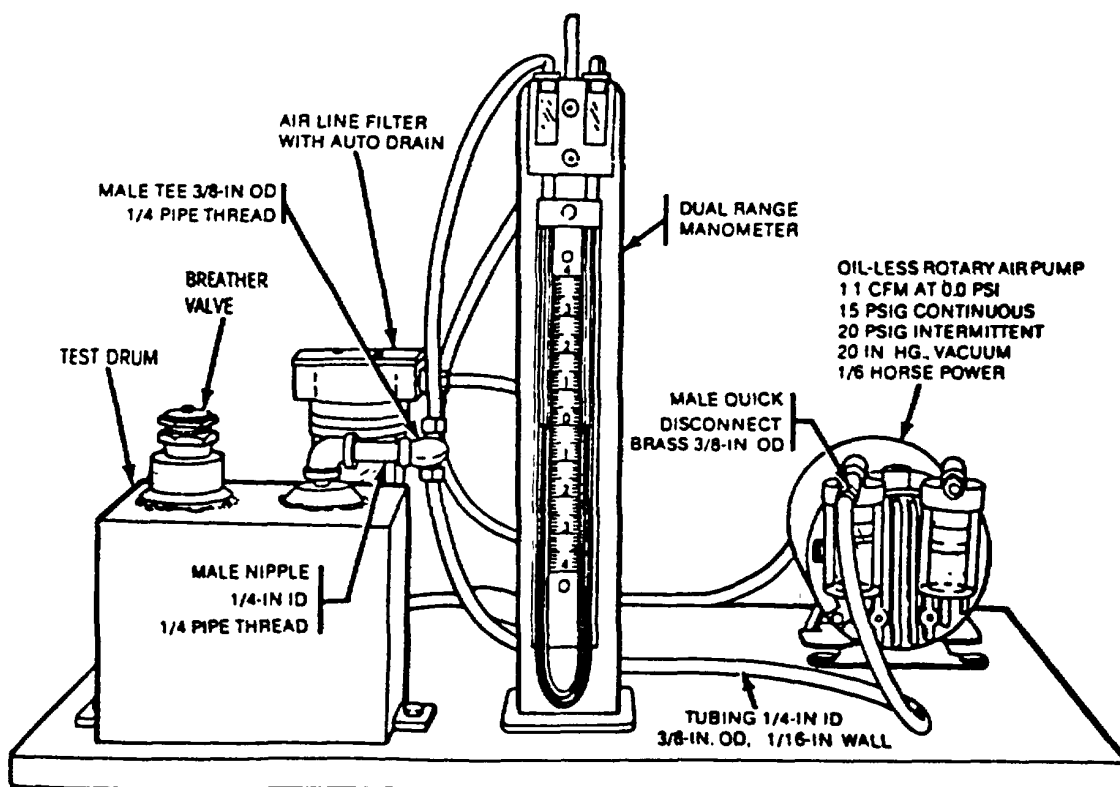

Figure 6. - Fabricated Test of Breather Valve, Type II container.
- e. Pressurize Type II container to 3 +/- 1/2 psi. (Fig. 6)